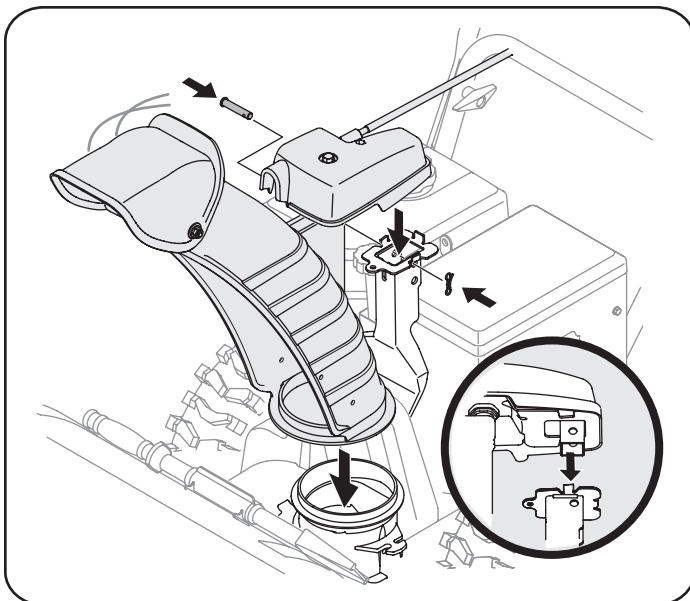

Figure 5
4. Place chute onto chute base and ensure chute control rod is positioned under handle panel. Secure chute control head to chute support bracket with clevis pin and bow-tie cotter pin removed in step 1. See Figure 5.